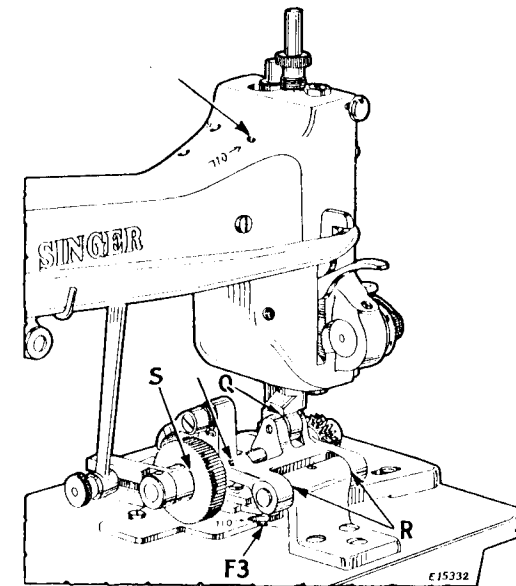

Fig. 4. Oiling Points at Rear of Machine
Apply a few drops of oil at (F3, Fig. 4) for the felt oil pad in back of the shuttle race for lubricating the bobbin thread and shuttle race.
Occasionally apply a drop of oil at (Q, Fig. 4, page 5) where the lower end of the presser bar is joined to the feed wheel frame; at (R) where the frame is connected to its bracket, and at (S) at the side of the ratchet wheel.